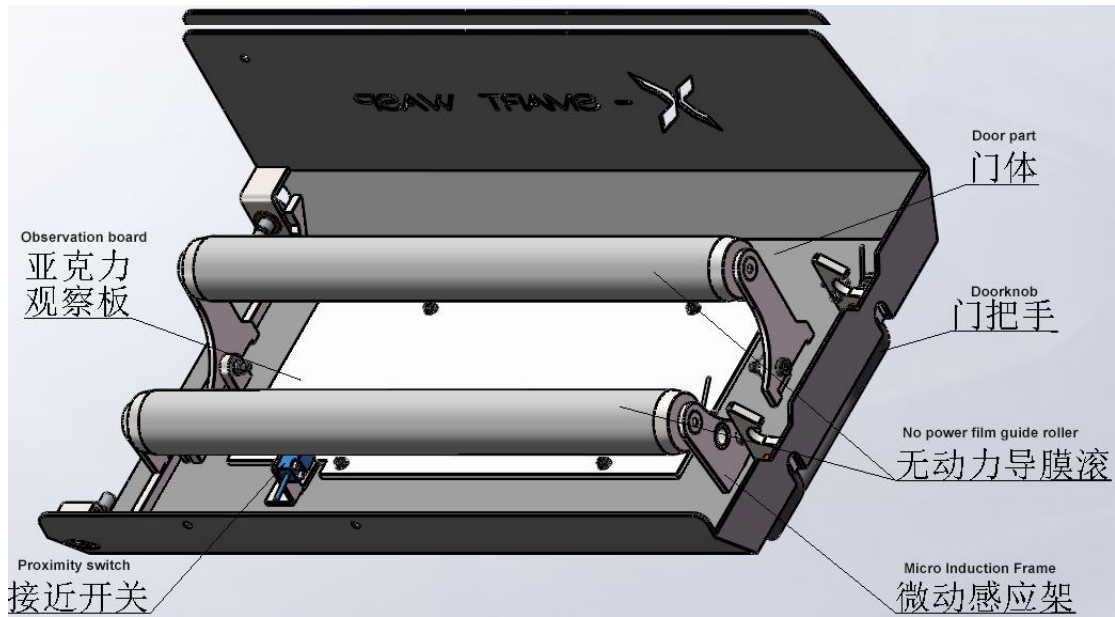

Figure 3.1.2 Door of film carriage
- 3.Film carriage door body mainly includes handle, door body, micro dynamic frame, no power guide roller, acrylic observation plate, proximity switch and other components.Pass the film through the guide roller along the specified route and gently push to close the door of the film seat. Easy to replace the film. The film is attached to the film pulling roller, which is driven by a pair of sprockets to stretch the film in a certain proportion. The non-dynamic film guide roll contacts with the proximity switch under the action of film tension and gives feedback signal to PLC. PLC through the compensation algorithm, control the motor to adjust the film release speed, so as to improve the product around the winding film contraction force, ultimately improve the quality and efficiency of packaging. (Figure 3.1.2)